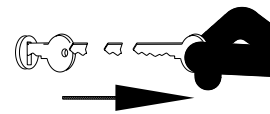

Fig. 73A
7. Install the 9/16"-18 JIC Male x 3/4"-16 Male O-ring Boss adapters (92927) into all ports of the manifold (9005476). (Fig. 73A)